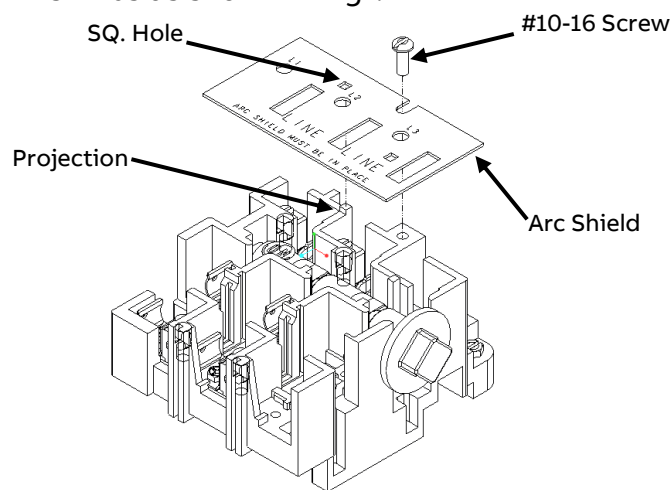

Figure 1. : Arc Shield THSHLD0 for Safety Switch
Arc Shield to be mounted by aligning square hole on barrier with projection on switch base and by using new or old (saved hardware) qty. (1)#10-16 screw with torque 15In-lbs as shown in Fig1.